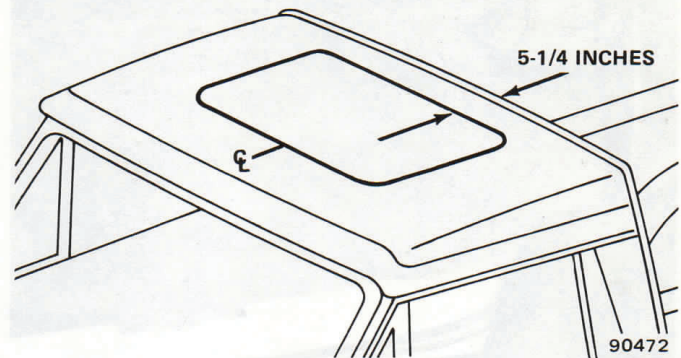

Fig. 14-13 Aligning Template—Truck Models
(3) Truck—Align template with roof centerline and position so that rear cut reference line is 5-1/2 inches from rear edge of roof (fig. 14-13). Secure template with masking tape.